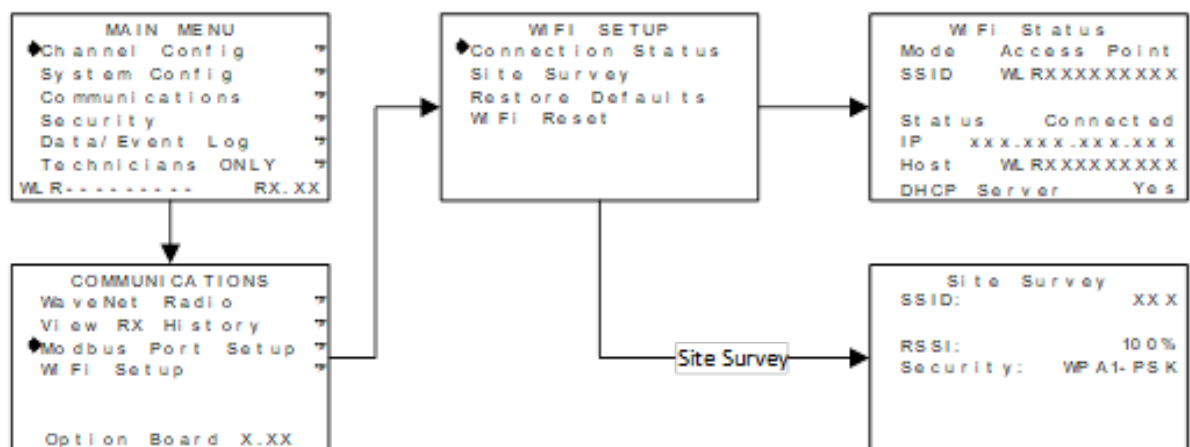

Figure 5-4 – Wifi Menu Tree
- The display box for that channel is Green (Figure 5-4).